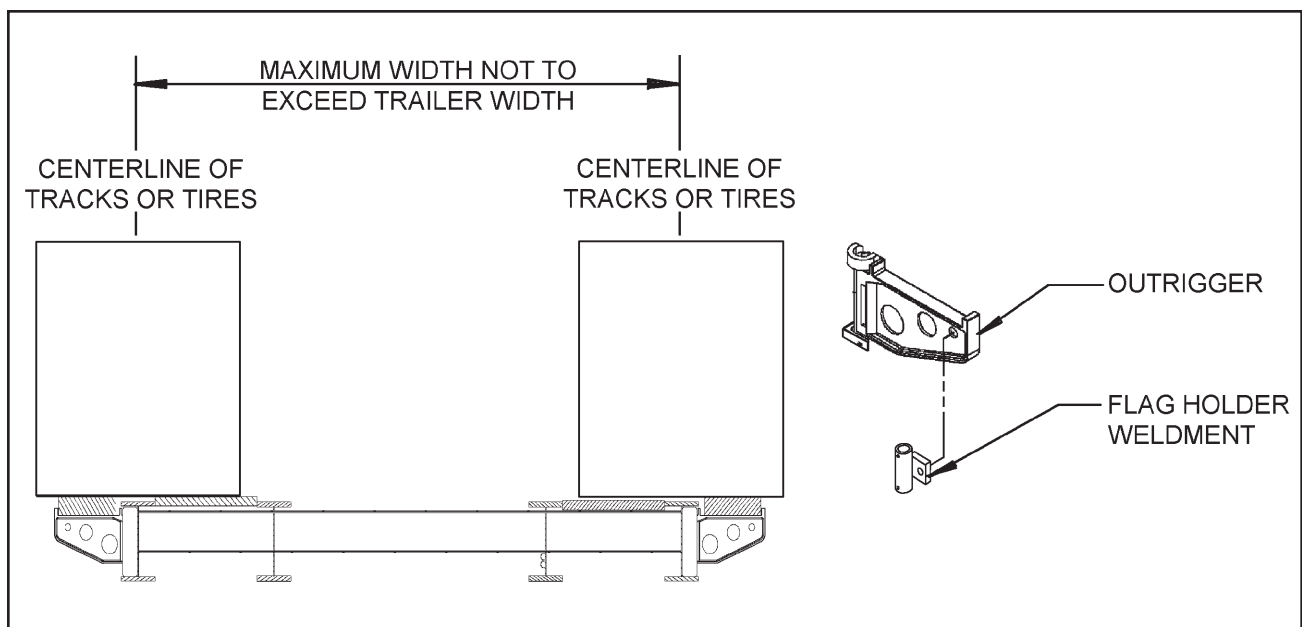

Figure 3-8 Swingout Outrigger Platform Extension
- 3-20.2 Lift up and rotate swing-out outriggers outward (See Figure 3-8).